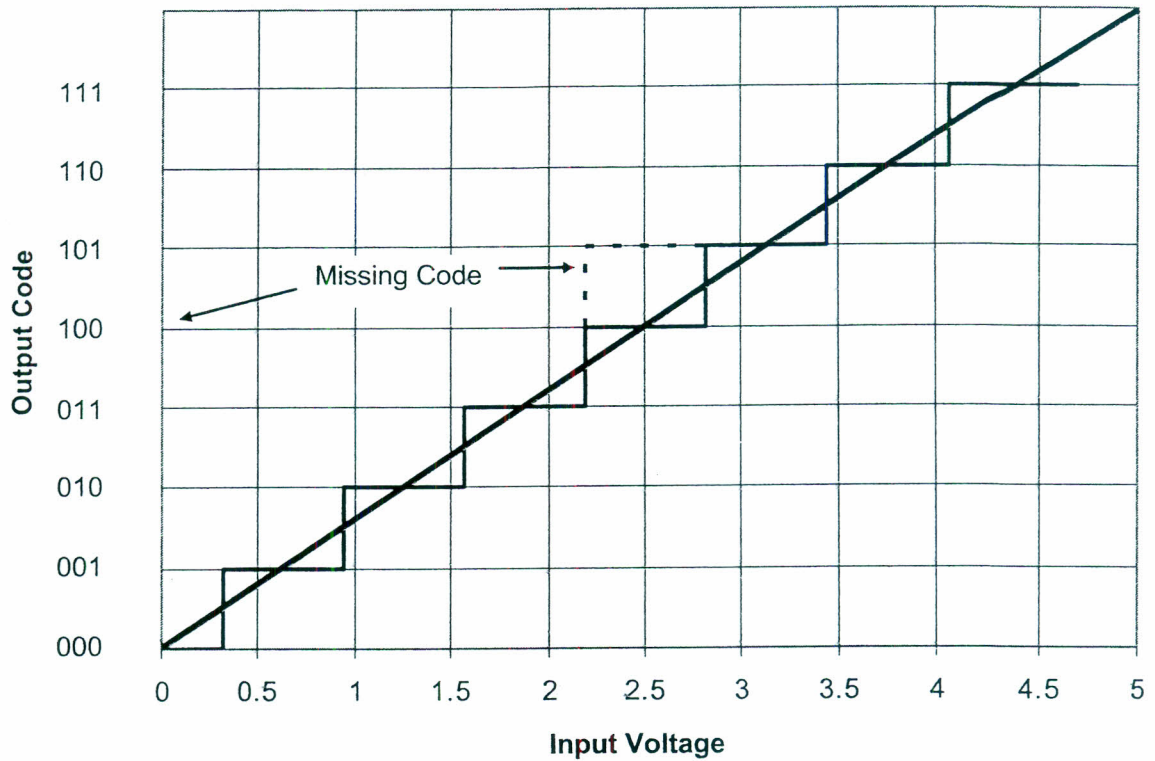

Figure 13-2 A 3-bit A/D transfer function.
**A/D transfer function:** The A/D transfer function shows the digital output code as a function of the input voltage. Figure 13-2 shows a transfer function for a 3-bit A/D. As the voltage increases from zero, the output code steps up one bit at a time, ranging from 000 to 111.
**Linearity:** Linearity is the deviation in output codes from a straight line drawn through zero and full scale. The best that can be achieved is  $\pm 0.5$  of the least significant bit ( $\pm 0.5 \text{LSB}$ ), as shown in Figure 13-2.
**Missing codes:** The transfer function for a converter with a missing code is shown in Figure 13-2. An internal error might be the cause of a missing code.